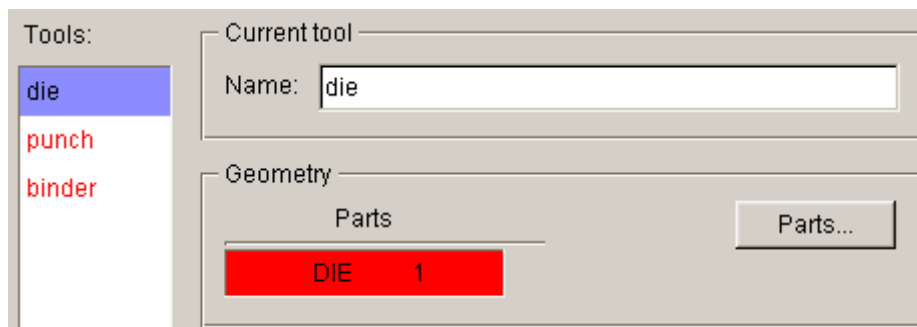

Figure 5.46 After die definition
- Click **Exit** button to return to tool definition interface. Now, you can observe the font color of **die** is changed to BLACK. See Figure 5.46.